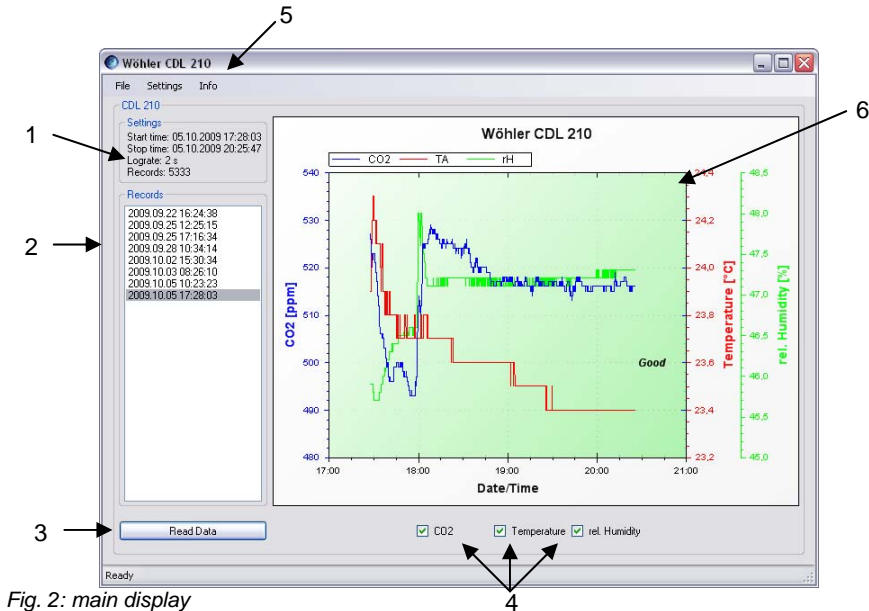

Fig. 2: main display
- To select the com port click **Settings > Com Port** in the menu bar (Fig. 2, Part 5)
- Click on „Read data“ to start the data transmission. (Fig. 2, part 3)